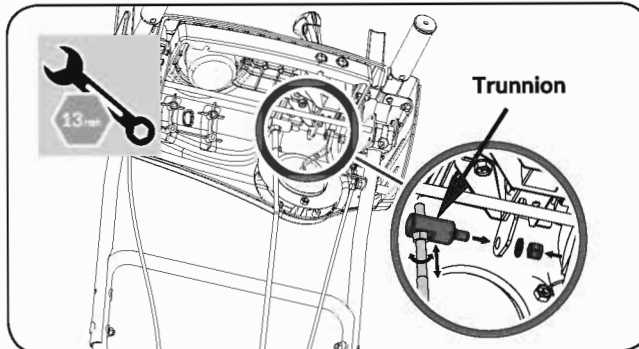

Figure 6c
3. Lift up the shift rod. Insert the trunnion into the shift rod hole on the bottom of the shift lever under the dashboard. Install the washer and M8 nut. Tighten securely. (See **Figure 6c**)